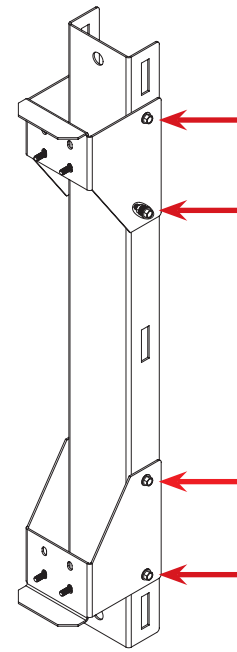

Figure 4 — Bolting the Pole Mount Rail to the Cabinet Brackets
- a. Orient the top cabinet bracket as shown in Figure 4.